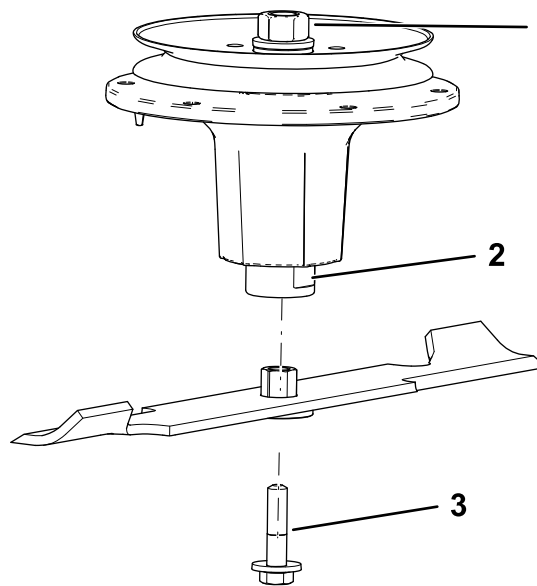

Figure 78
2. Install the bushing/blade assembly into the spindle shaft (Figure 78).